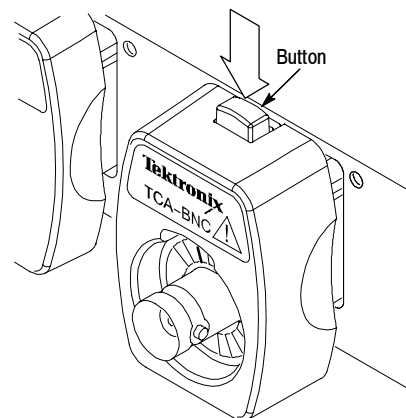

Figure 2: Removing the adapter from the host instrument
3. Press the button on top of the adapter (see Figure 2) to release the lock and remove the adapter from the host instrument.